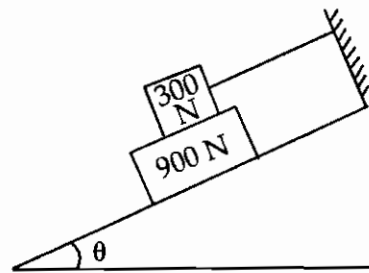

Figure 1 [Q. No. 1 (A)]
1. (A) What should be the value of ' θ ' of the inclined plane shown in Figure 1, which will make the motion of 900 N block down the plane to impend? The coefficient of friction for all contact surfaces is $\frac{1}{3}$. 12